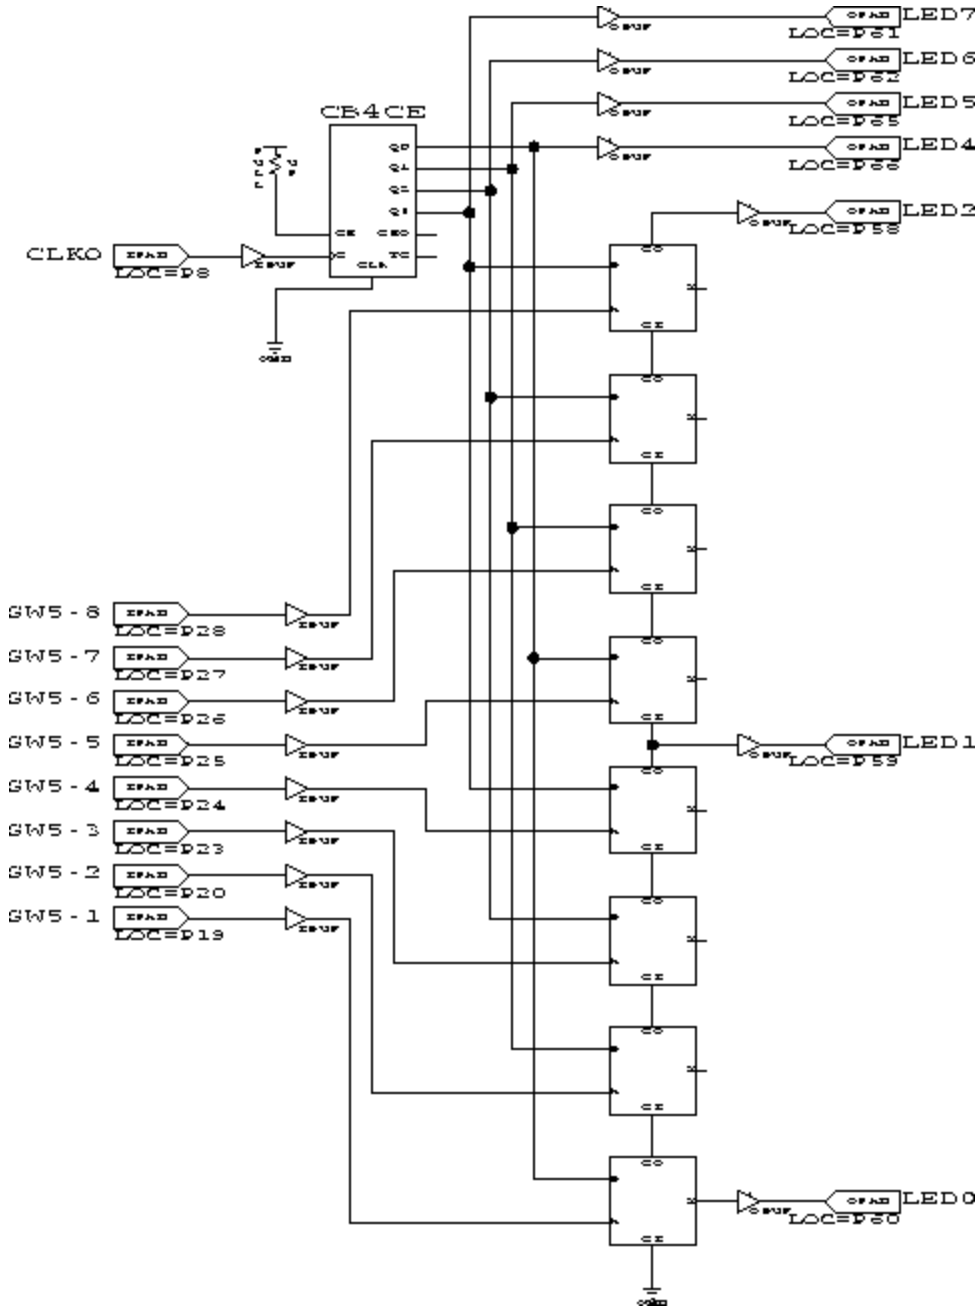

Figure 5: An eight-bit adder
We have entered and compiled the circuit in Figure 5, a eight-bit ripple adder summing the output of a four-bit counter and four switches. Your task will be to measure the worst-case delay of the circuit.
3. Set the switches so 00000001 is one of the addends. (See Figure. 5 to determine which switch should be least significant)